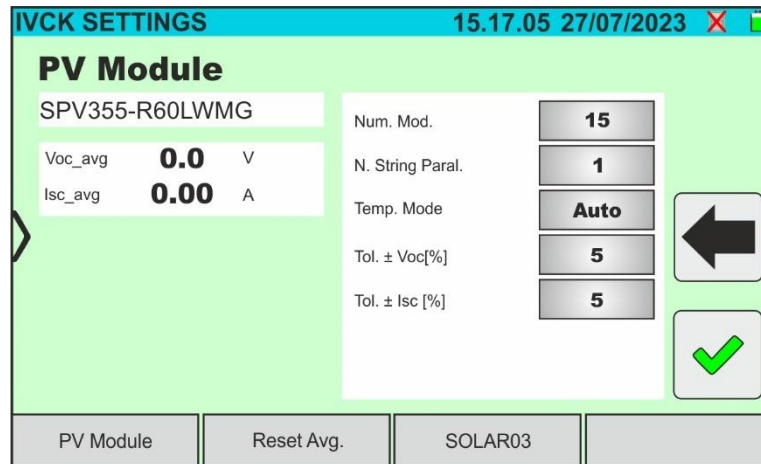

Fig. 60: IVCK test parameter settings
9. Tap on the **"Settings"** key (Monofacial module reference). The following screen is shown in Fig. 60. The following parameters are given: